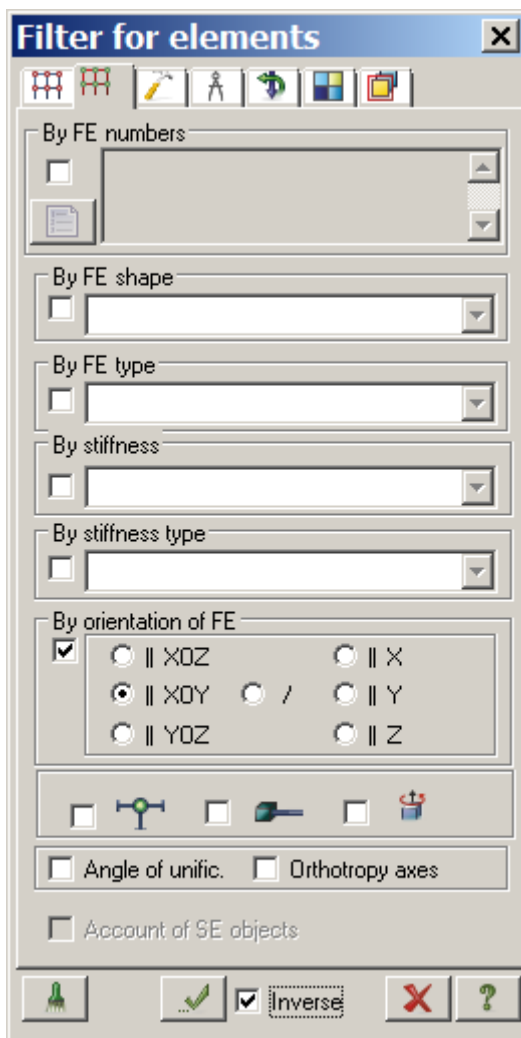

Figure 16.15 Filter for elements tab
- ⇒ To select floor slabs and roof slab, in the **PolyFilter** dialog box (see Fig.16.15), on the **Filter for elements** tab, select **By orientation of FE** check box and specify || XOY.
- ⇒ In the **PolyFilter** dialog box (see Figure 16.15), on the **Filter for elements** tab, clear **By orientation of FE** check box.